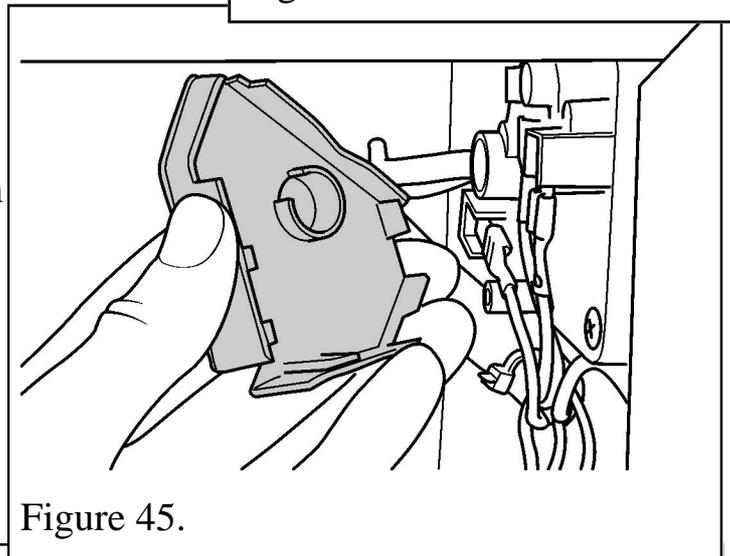

Figure 45.
1. Remove the cover from the pressure switch to gain access (See figure 45).